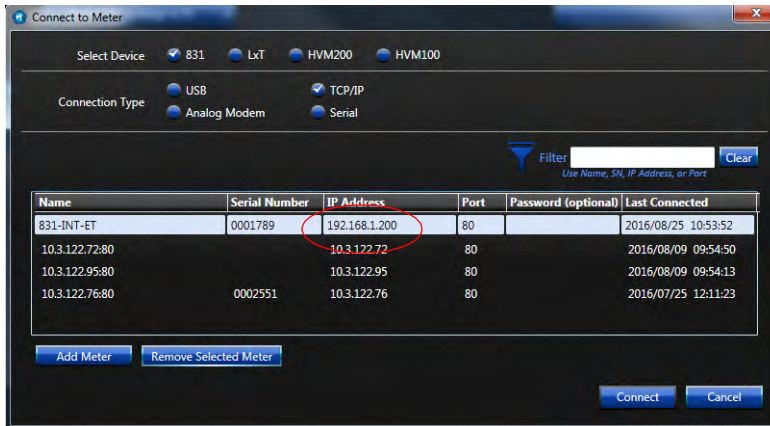

FIGURE 3-2 G4 LD Utility Connect to Meter
Step 4 Select **831** and **TCP/IP** options. Then press **Add Meter**, a new empty meter line will appear. See FIGURE 3-2 "G4 LD Utility Connect to Meter"